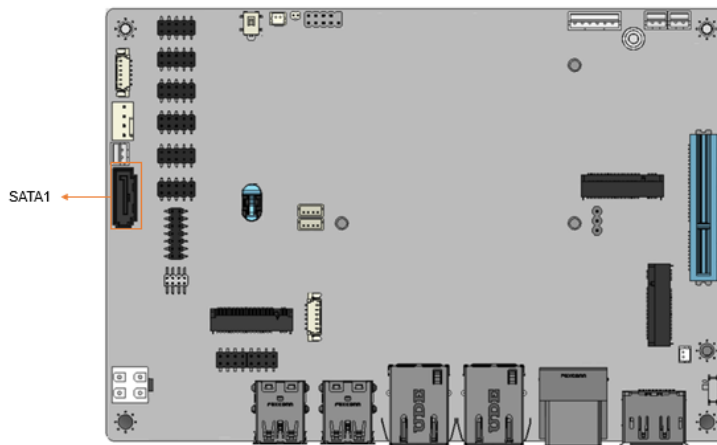

Figure 3-21: SATA 6Gb/s Connector Location
- CN Location:** See **Figure 3-21**